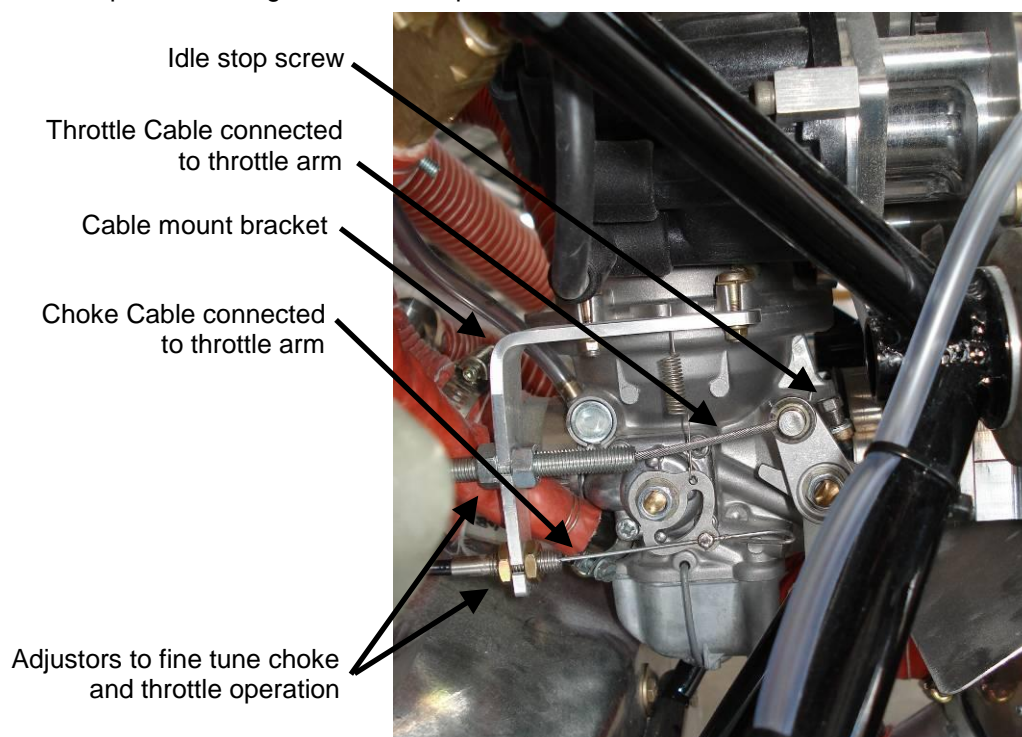

Figure 9. Choke and Throttle Connections to Carburettor
- The cables for the choke and throttle can be adjusted using the adjuster screws and nuts shown in Figure 9. A 7mm spanner is required.
- All Jabiru engines are run-in on a Dynamometer before delivery. It is impossible to accurately set the idle RPM when the engine is on the dynamometer, so the Idle Stop Screw (shown in Figure 9) must be adjusted as a part of the engine installation process.